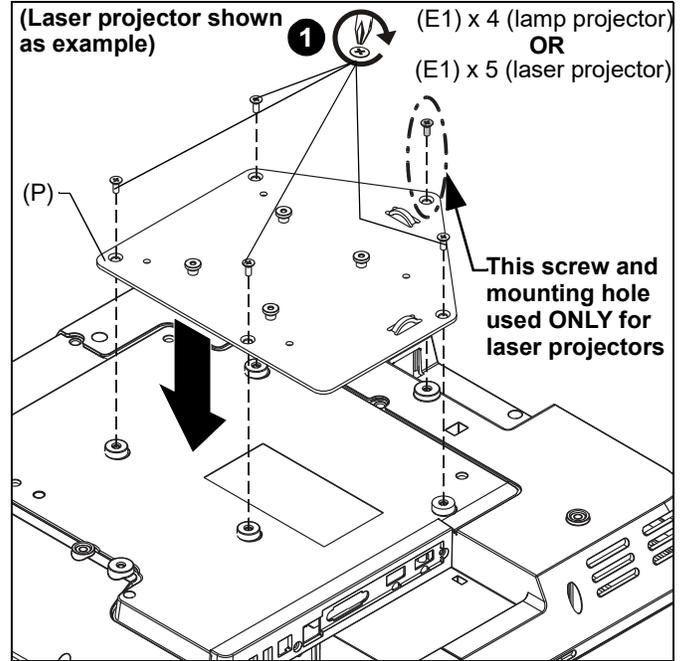

Figure 7
1. Attach adapter plate (P) to projector using the correct number of fasteners for the type of projector. (See Figure 7)